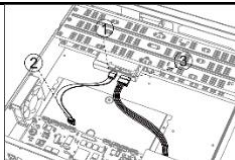

Figure 2-6 Connect Cable
Step 3 Connect the data cable and power cable. Refer to Figure 2-6.